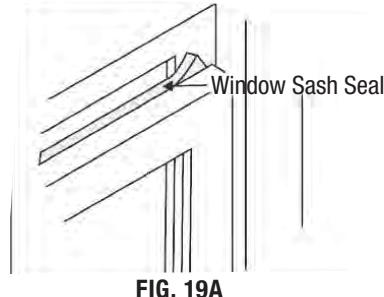

FIG. 19A
1. Trim sash seal to fit window width. Insert into space between upper and lower sashes. (Fig. 19A)